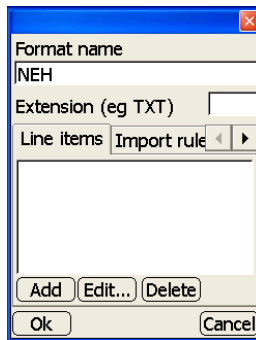

Figure 3-5. Enter Format Name and Extension Type
- On the **format** dialog box, set the following (Figure 3-5):